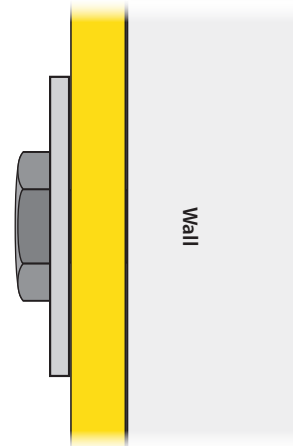

FIG. 9
Tighten these four fasteners to secure the Wall Bracket (F) to the wall [FIG. 9].